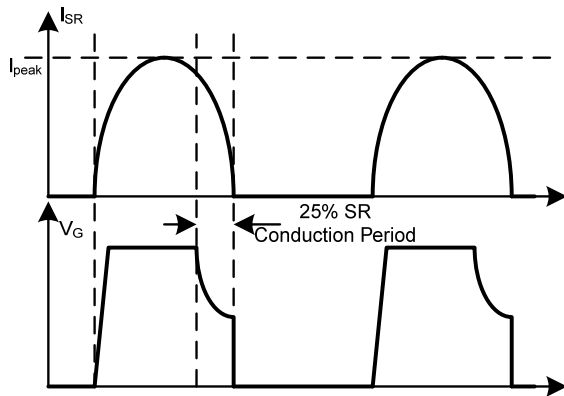

Figure 10: Synchronous Rectification Typical Waveform in LLC
Figure 10 shows the typical waveform of LLC on the secondary side. To achieve high usage of the MOSFET's  $R_{DS(ON)}$ , the MOSFET driver voltage is kept at a maximum level until the last 25% of the SR conduction period, as shown in Equation (3):